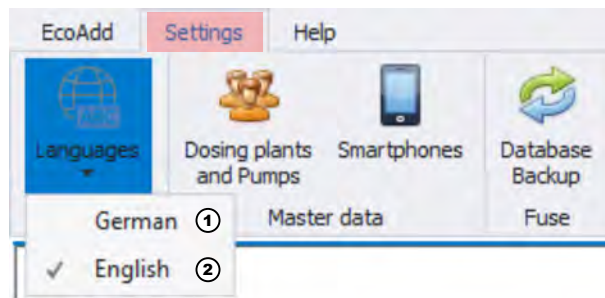

Fig. 44: Context menu: Language selection in English
1. Select [German] in the context menu (Fig. 44, item 1).